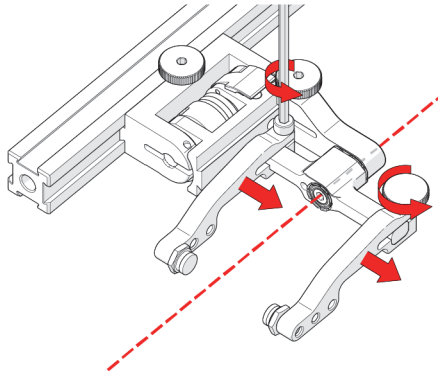

Figure 2-28 Adjust probe holder arms
5. Loosen the arm clamp screw and the probe holder arm adjustment knob (see Figure 2-28 on page 57), and remove the outer probe holder arm from the yoke.
The probe holder yoke can accommodate many different probe and wedge sizes of varying widths. It is best to center the wedge with the yoke's pivot axis to reduce wedge tipping when scanning. Position the inner probe holder arm accordingly with the center of the yoke (see Figure 2-28 on page 57).